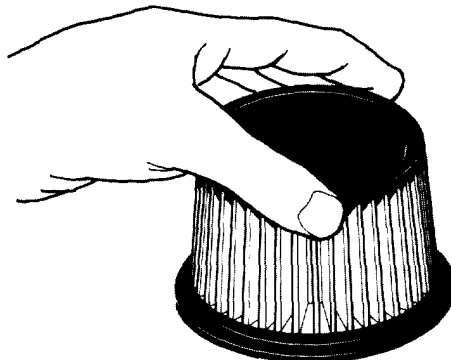

Figure 18
4. Tap element and cover lightly on a flat surface to remove dust and dirt (Fig. 18). Replace the element if it is bent, crushed, torn, or oil-soaked. **DO NOT WASH OR OIL THE ELEMENT.**